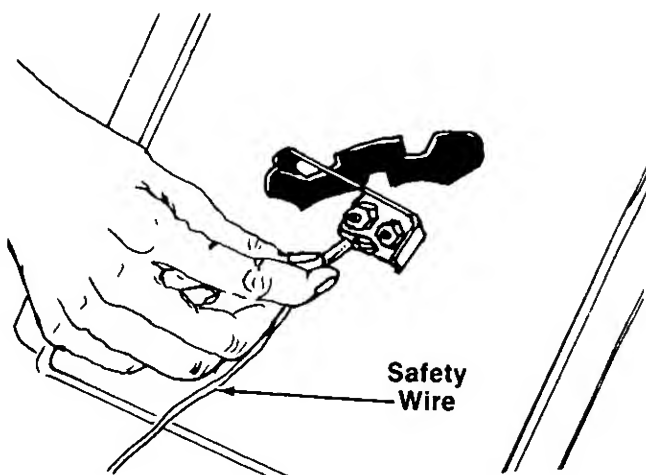

FIGURE 5.
3. Lift the transmission cover. Unplug the safety wire from beneath the transmission cover. See figure 5.
13. Plug the safety wire into the switch beneath the transmission cover. Refer to figure 5. Replace the transmission cover and gear shift knob.